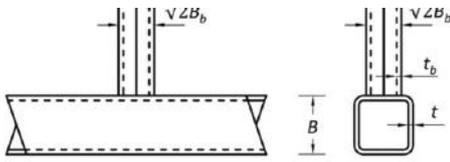

Fig. 6. Branch-rotated (BR) HSS connection
- **Branch rotated 45°:** This configuration (Figure 6), where the branch is rotated 45° but still sits squarely on the chord member, increases the footprint of the branch on the chord. This increases the effective branch-to-chord width ratio (approximately $\sqrt{2}$ times the normal ratio) and the contact area, resulting in a stronger connection. The behavior of such a connection is similar to a round branch connecting to a square chord, allowing the branch conversion method to be applied. A double conversion process (rotated square to equivalent round, then to equivalent square) can be used, potentially yielding 10% to 12% more capacity of the joint.